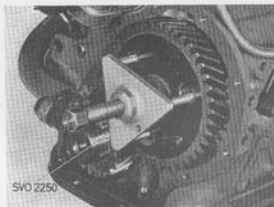

Fig. 2-50. Removing camshaft gear
4. Remove the camshaft nut and pull off the gear by using puller 2250, see Fig. 2-50.